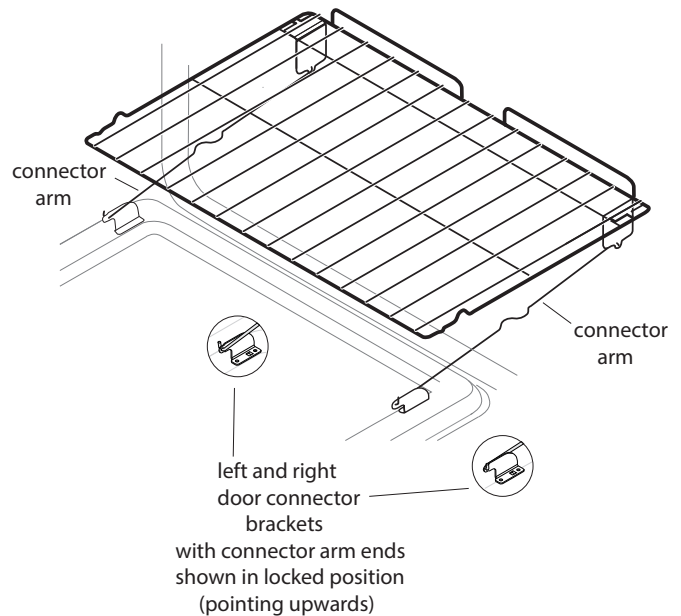

Figure 23: Effortless™ oven rack after assembly
6. While holding the connector arm in place, twist the connector arm so the ends of the connector arm point upwards (Figure 23). The connector arm should now be locked into position (Figure 24).